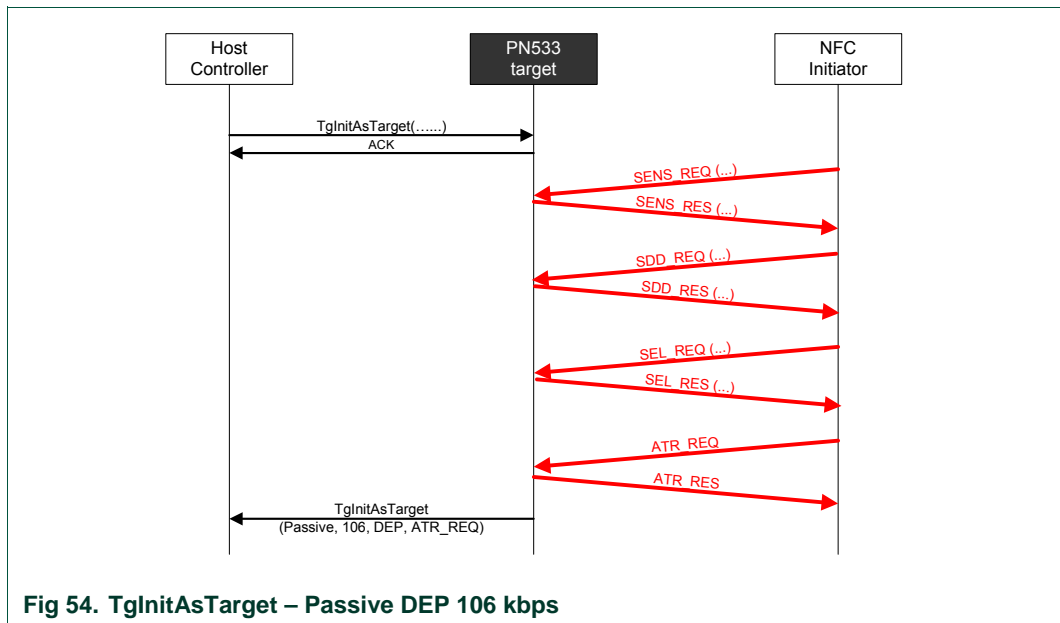

Fig 54. TgInitAsTarget – Passive DEP 106 kbps
- *ATR\_REQ*: if the flag *fAutomaticATR\_RES* is set (§8.2.8, p.66), the PN533 sends back automatically the ATR\_RES frame to the initiator (example in Fig 54).